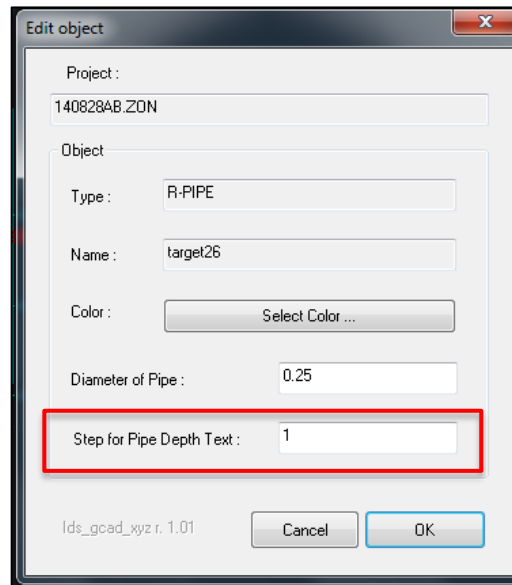

Fig. 3.11 - Information command window
11. *Object Information* transforms the AutoCad cursor into a white square; you can click on the desired item and the window in Fig. 3.11 will appear. This window will view all the general information regarding the Project and Zone and regarding information about the selected object, for example, type of plot R-PIPE and the name PIPE-01 (see Fig. 3.11).
- *Step for Pipe Depth Text*: select the distance interval of the fields associated to each pipe (red rectangle in Fig. 3.11). In this way you can read the depth at which you find the target in respect to reference surface (XY Plane).